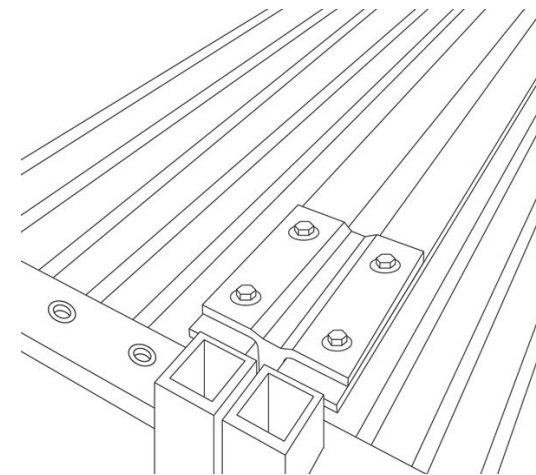

FIG. 9
- iv) FIG. 9 shows completed assembly. CAUTION: Although platforms are now connected, four support tubes must be installed per platform.